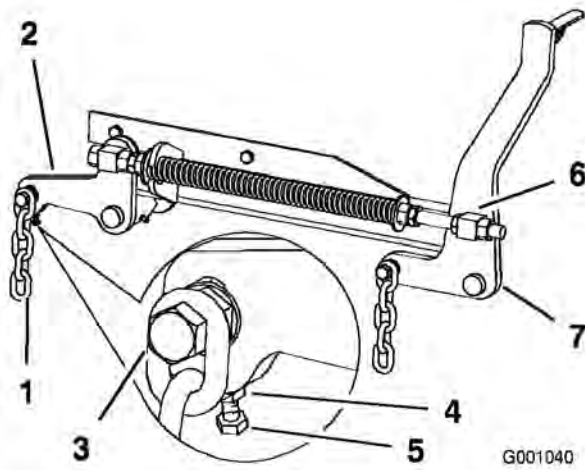

Figure 69
- If the measurements at positions **B** or **C** are not correct, loosen the bolt attaching the rear chain to the rear support arm (Figure 69).
8. Loosen the jam nut under the rear support arm and adjust the adjustment bolt to get a measurement of 3-1/8 to 3-1/4 inches (Figure 69).
7. Loosen the front swivel jam nuts, at the front of the right and left swivels, approximately a 1/2 inch (13 mm) (Figure 69).
8. Adjust the lift nuts on both the left and the right side of the machine to achieve 1/4 to 3/8 inch (6 to 10 mm) lower in front at **A** than in the rear at **B** (Figure 69).